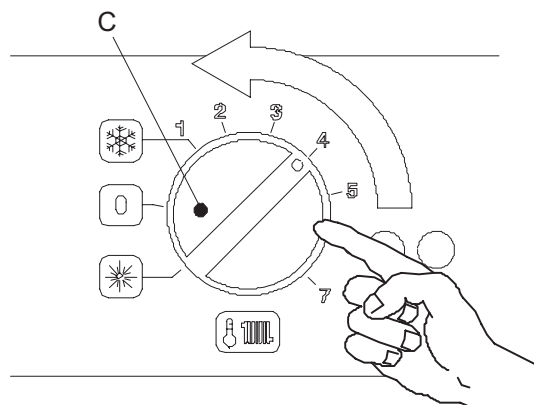

Figure 6.1
- If the ambient temperature is too high, do not alter the radiator valves. Reduce the central heating temperature instead by means of the room thermostat and the knob (C in Fig. 6.1).